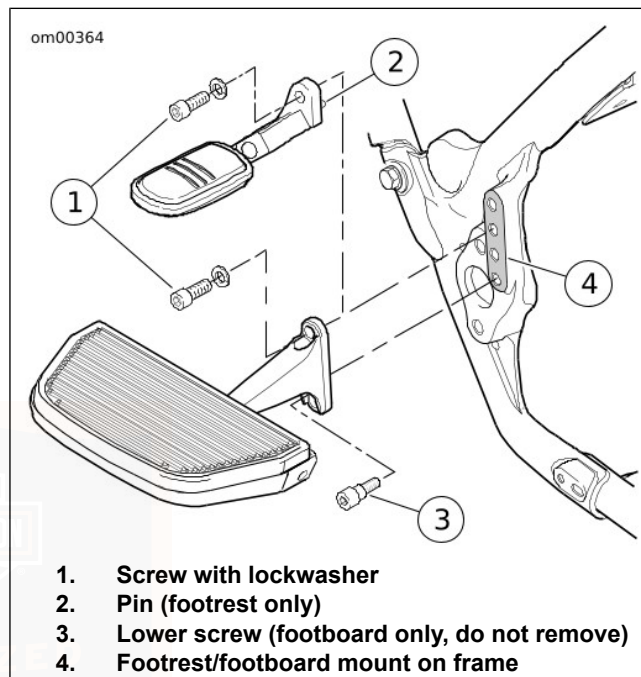

Figure 28. Passenger Footboard/Footrest (typical)
1. See Figure 28. Remove socket screw with lockwasher from top of footboard/footrest bracket. Do not remove lower screw from footboards.